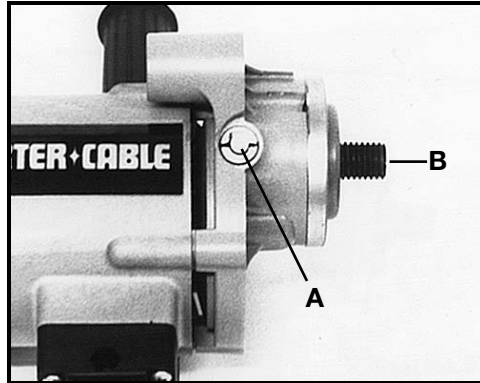

Fig. 5
A spindle lock (A) Fig. 5 is located on the right side of the gear case. To Operate: Depress spindle lock pin with thumb while rotating spindle (B) BY HAND until pin engages and stops spindle rotation.